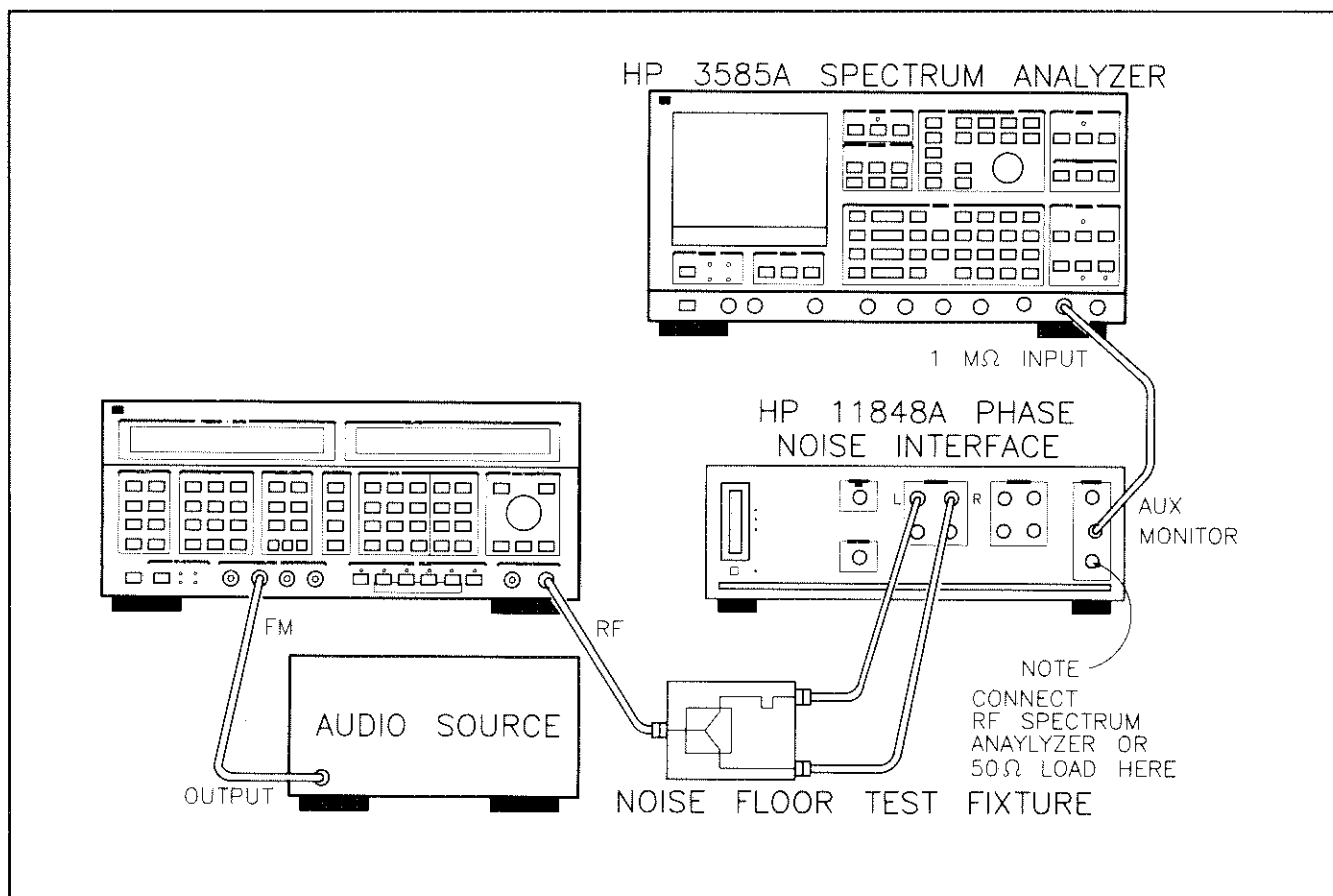

Figure 3-5. FM (High Deviation and Rates) Test Setup
2. Connect the equipment as shown in figure 3-5. Check that the SPECTRUM ANALYZER output connector on the front panel of the HP 11848A Phase Noise Interface is terminated in 50 Ω . Also, check that the delay line connectors are are tight.